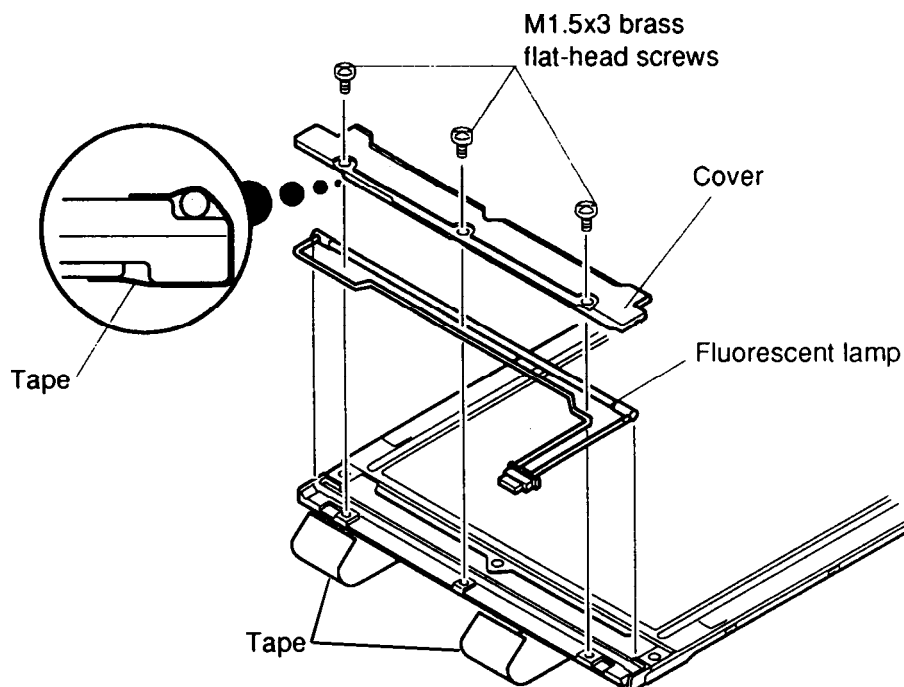

Figure 4-35 Removing the Fluorescent Lamp
To remove the T1900's Fluorescent Lamp, follow the steps below and refer to Figure 4-35.
To install the T1900's fluorescent lamp, follow the steps below and refer to Figure 4-35.
4. Secure the **FL cable** to the **LCD panel** with tape as indicated in Figure 4-35.